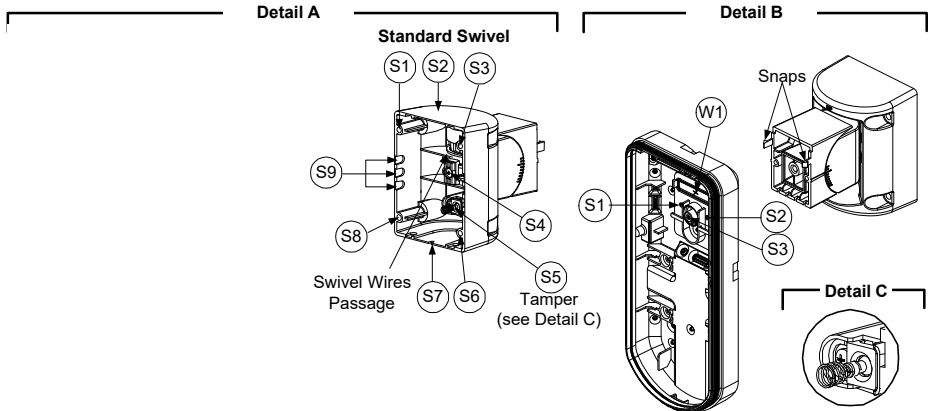

Figure 7
3. Open knockouts on external base (Figure 7, Detail B)
4. On the swivel accessory remove the required swivel cable wiring knockout S2, S7 or S9 (Figure 7, Detail A).
5. Remove back tamper from the internal base (see “Changing Back Tamper Position” paragraph) and connect it to S5 (Figure 7, Detail A) on the Standard Swivel.
- a. Insert external cable wiring through knockouts S2, S7 or S9 and extract them (including the tamper wires) through the Swivel Wires Passage (Figure 7, Detail B).
7. Insert tamper wires and external cable wiring from Standard Swivel through knockout W1 on the external base (Figure 7, Detail B).